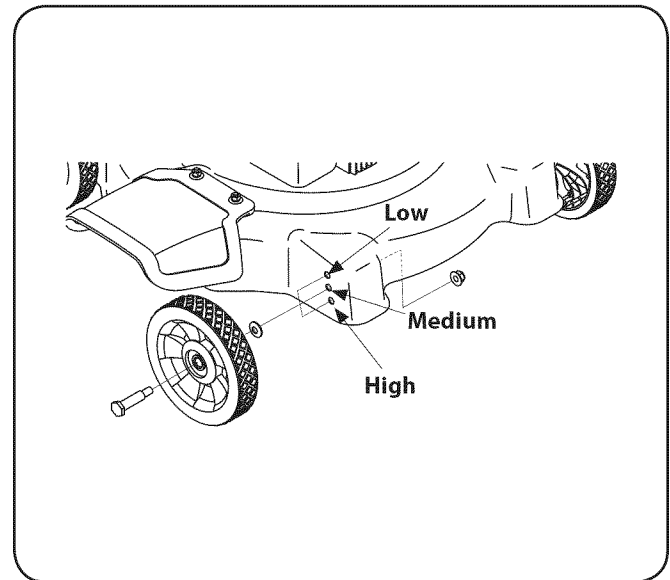

Figure 3-9
1. Remove the carriage bolts and related hardware from the wheels. See Fig. 3-9.